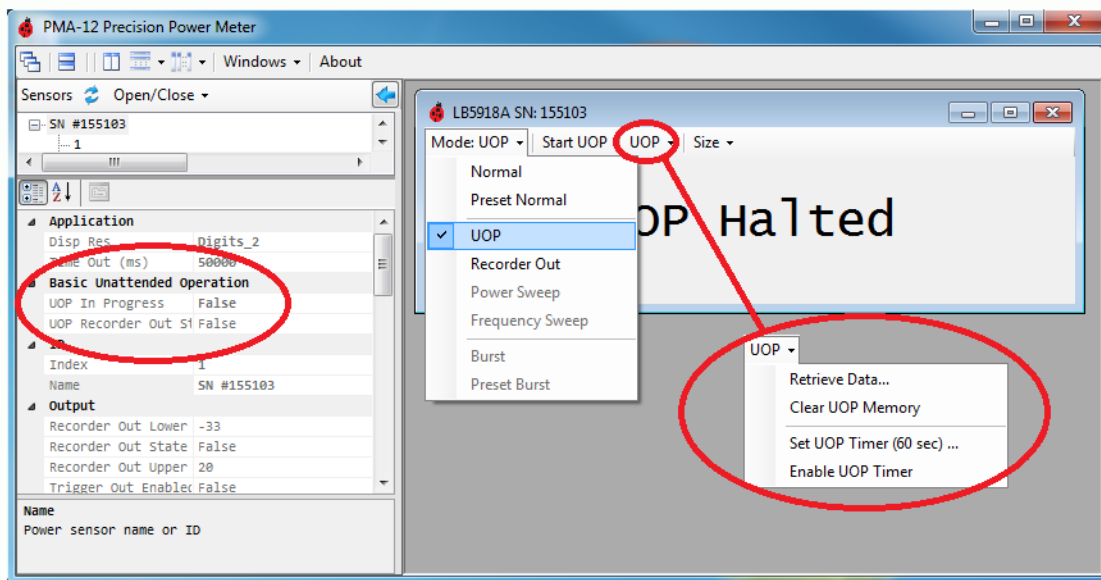

Figure 3 - Recorder Out in Unattended Operation
To protect equipment that may be controlled by Recorder Out, the default condition for Recorder Out when returning from power up is always OFF unless specifically set otherwise, this includes power up in Unattended Operation. To enable Recorder Out for use while the sensor is operating in Unattended Operation mode, a special function must be set. This parameter, *UOP Recorder Out State*, is circled at left in Figure 3. When set to True, Recorder Out will function while the sensor is running in Unattended Mode. The parameter can only be changed when the sensor is operating in Normal Mode (Figure 3 middle, Mode). While the sensor is in UOP Active (In progress) the function will remain set and the sensor can be repeatedly power cycled without losing the Recorder Out during UOP state. If the sensor is powered up while UOP is not active, *UOP Recorder Out State* will be cleared to FALSE and Recorder Out will not operate in Unattended Operation unless the parameter is set again.
3. In the Sensor Window, Under the Mode Dropdown, Set the mode to *Recorder Out* (Figure 3 middle)
5. Under the Mode Dropdown, Set the mode back to *Normal* (Figure 3 middle)
6. Under *Basic Unattended Operation*, set *UOP Recorder Out State* to True (Figure 3 left)
7. In the Sensor Window, Under the Mode Dropdown, Set the mode to *UOP* (Figure 3 middle)